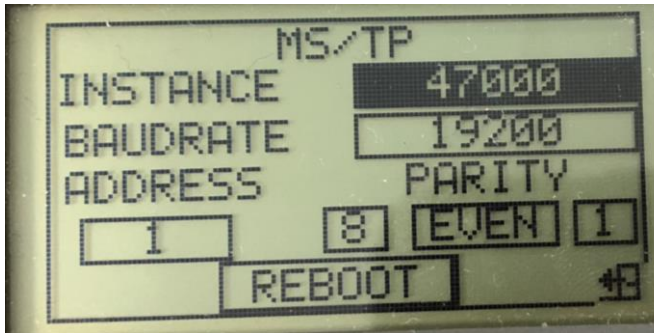

Figure 27
- Adjust MS/TP communication settings using the Numbers fields. Default values as shown in Figure 27. Each number field must be edited separately. After editing, navigate to “Reboot” and press OK. The device instance will be updated automatically after GATEWAY performs a reboot.